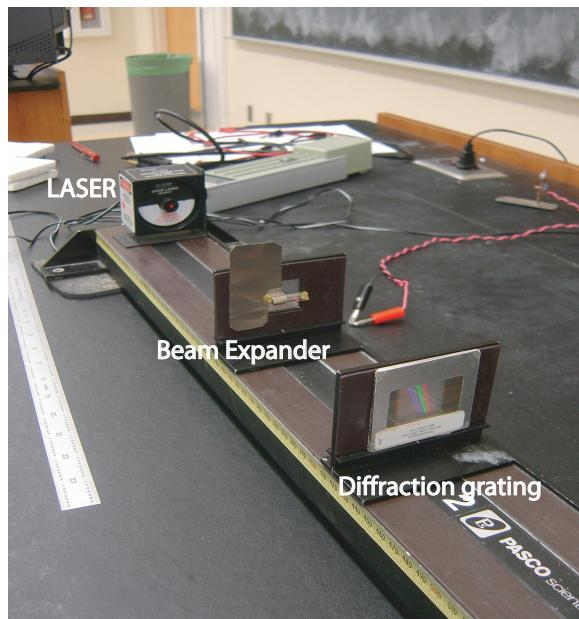

Figure 46: Laser, beam expander and diffraction grating. The beam expander is used to create a sheet beam of light.
- The best results are obtained by expanding the circular laser beam into a sheet beam. This is accomplished with a short glass tube (called a beam expander) placed horizontally into the laser beam, which produces a vertical sheet beam. The beam expander is shown in figure 46. To improve the resolution insert two vertical metal sheets between laser and beam expander. These form an adjustable vertical iris, which narrows the horizontal beam width.